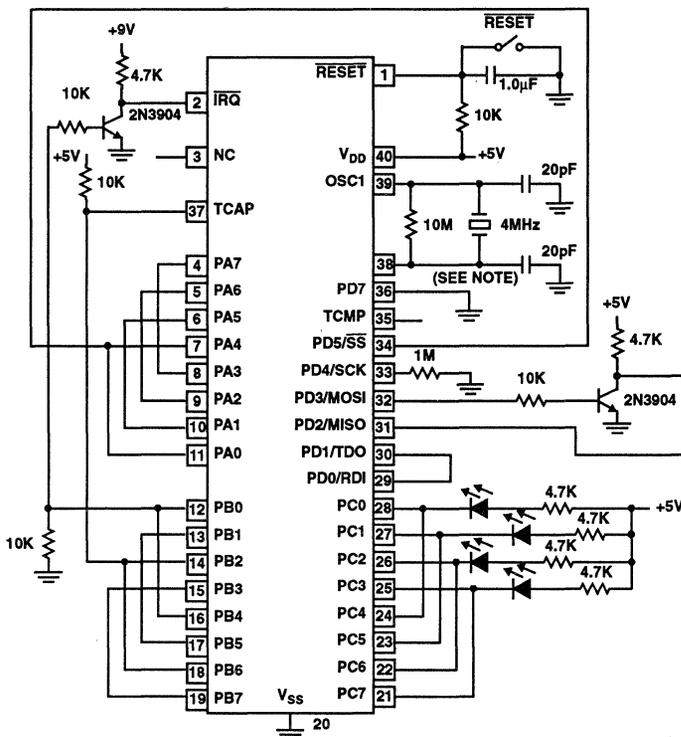

FIGURE 10. SELF-CHECK CIRCUIT SCHEMATIC DIAGRAM
The self-check capability of the CDP68HC05C4 MCU provides an internal check to determine if the device is functional. Self-check is performed using the circuit shown in the schematic diagram of Figure 10. As shown in the diagram, port C pins PC0 - PC3 are monitored (light emitting diodes are shown but other devices could be used) for the self-check results. The self-check mode is entered by applying a 9V input (through a 4.7kΩ resistor) to the  $\overline{\text{IRQ}}$  pin (2) and 5V input (through a 4.7kΩ resistor) to the TCAP pin (37) and then depressing the reset switch to execute a reset. After reset, the following seven tests are performed automatically: